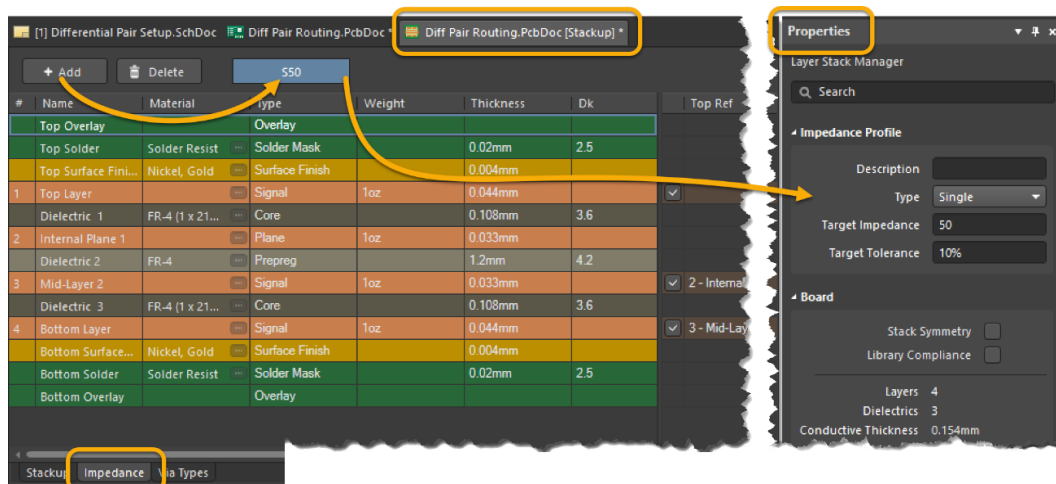

Figure 13. New Impedance profile with default 50 Ohm
36. Open the *Layer Stack Manager* (LSM) **Design » Layer Stack Manager...** and select the *Impedance* tab at the bottom left, Figure 13.
37. Select the **+ Add...** button at the upper left to create a new Impedance profile, Figure 13.